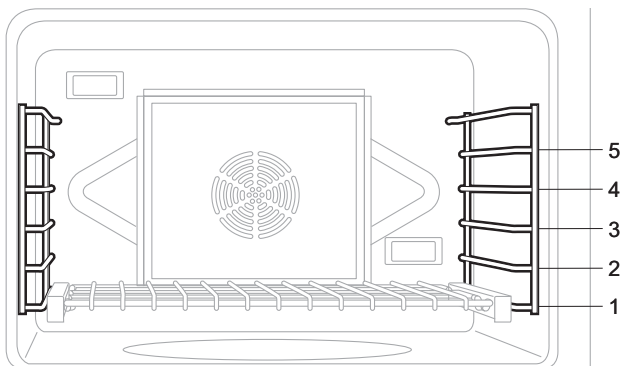

Figure 29: Large Gas Main Oven with Rack Positions
- Rack level positions in the oven are numbered like an elevator. Number one level is the lowest (*Figure 29*).